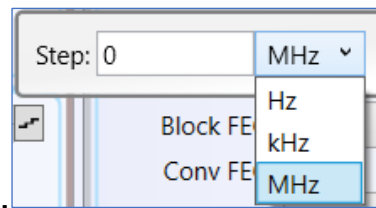

Figure 157: Rate, Step Selection Window
- Step – Sets step size and unit in Hz, kHz, or MHz, as shown in Figure 157.
- Enable button – Enables or disables the data generator; disabling the data generator effectively produces an all zeroes (0) pattern